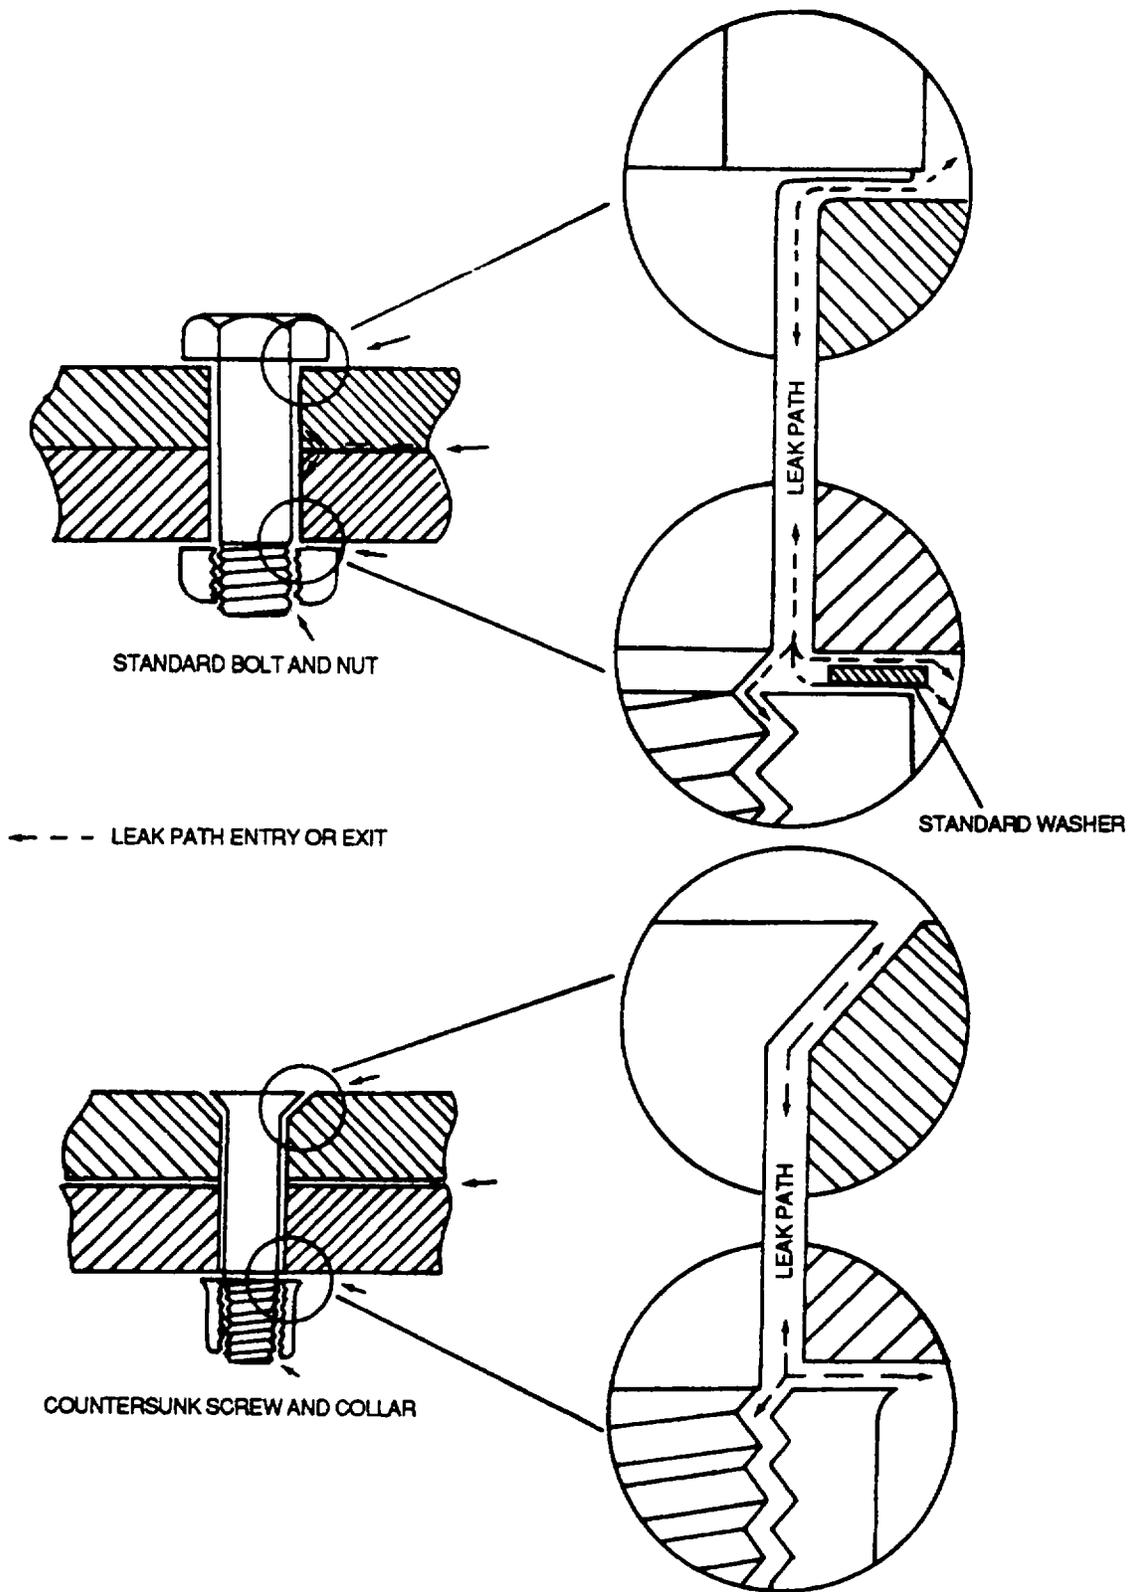

Figure 2-9. Fastener Leaks
g. Testing Fuel Systems and Tanks/Cells for Leaks. Leak test methods, classification of leaks, and approved testing fluids are explained below. Leak source, path, and exit should always be considered. Figures 2-9 through 2-13 show various leak paths.